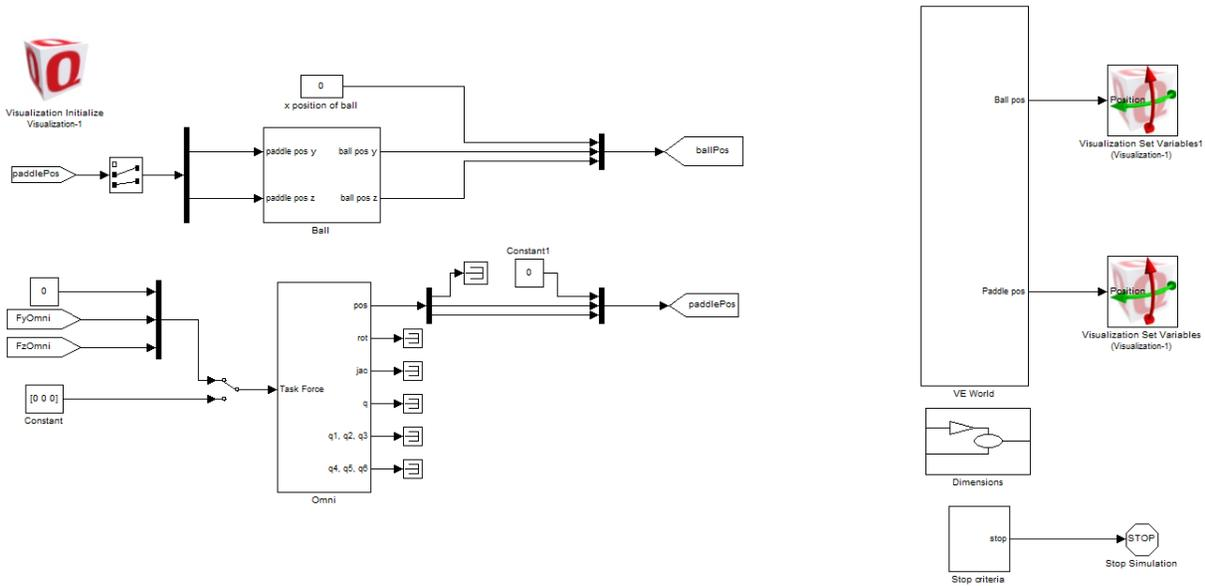

Figure 12.7: Complete 2D Pong model
9. The parent model should now resemble Figure 12.7.